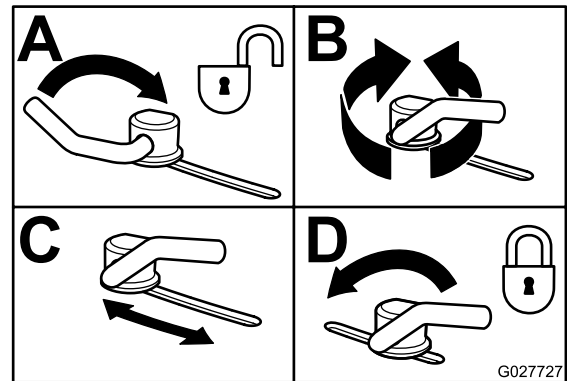

Figure 29
- To adjust the cam locks, swing the lever up to loosen the cam lock (**Figure 29**).
- Swing the lever back over to tighten the baffle and cam locks (**Figure 29**).